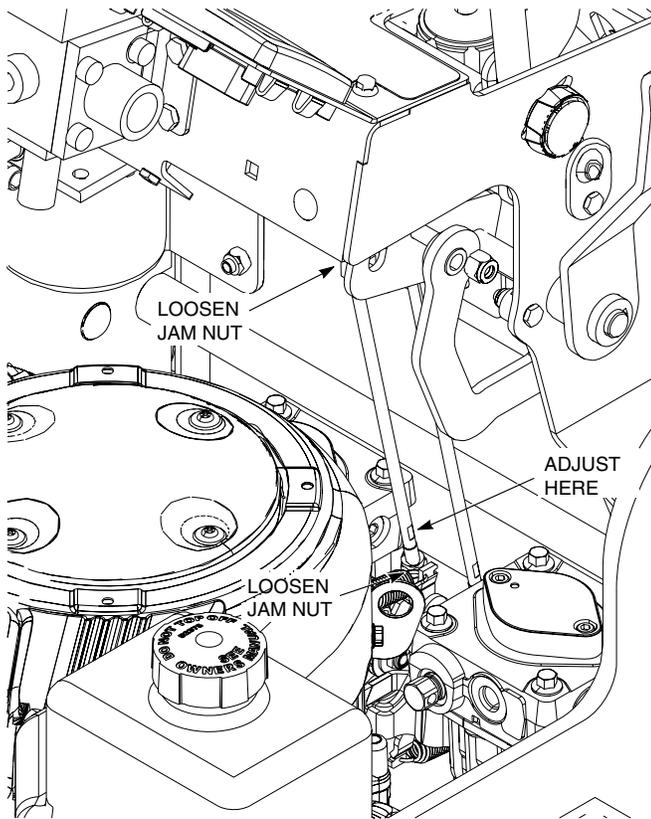

Figure 5-2. Tracking Adjustment (Left Side Shown)
4. Adjust the LH wheel by loosening the jam nuts on the steering control rod and turning the rod until the drive wheel turns in the forward direction. Turn the rod back until the drive wheel stops moving. Turn the rod an additional 1/2 turn. See Figure 5-2.
- A. Stop the machine and place the steering control levers in the neutral position. Loosen the lock nuts securing the ball joints at each end of the LH steering control rod. Rotate the control rod to lengthen the rod and tighten the lock nuts. This will cause the control rod to stroke the LH pump less, slowing down the LH wheel. See Figure 5-2.
A. Stop the machine and place the steering control levers in the neutral position. Loosen the lock nuts securing the ball joints at each end of the RH steering control rod. Rotate the control rod to lengthen the rod and tighten the lock nuts. This will cause the control rod to stroke the RH pump less, slowing down the RH wheel. The same adjustment is used for the RH side as shown in Figure 5-2.